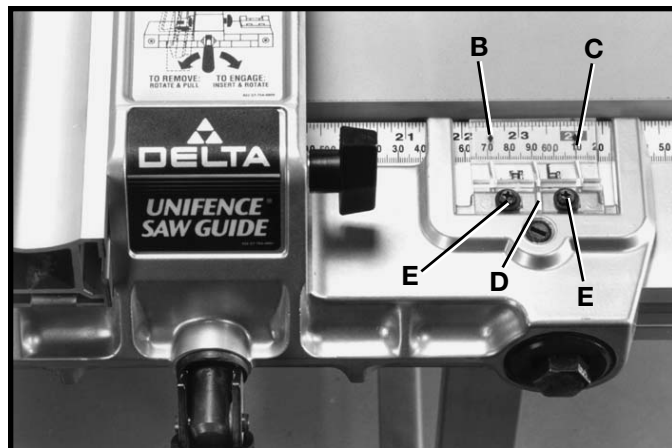

Fig. 113
5. The distance the fence is positioned away from the blade is indicated by the two witness lines (B) and (C) Fig. 113, located on the cursor (D). The witness lines (B) and (C) easily indicate the distance the fence is positioned away from the saw blade. Witness line (B) indicates the distance the fence is away from the blade when the fence is in the horizontal position Fig. 111, and witness line (C) indicates the distance the fence is away from the blade when the fence is in the vertical position Fig. 110. If it is necessary to adjust cursor (D), make a test cut with the fence in either the vertical or horizontal position, measure the distance of the finished cut and move the cursor (D) by loosening the two screws (E) Fig. 113. After adjustment is completed tighten the two screws (E).